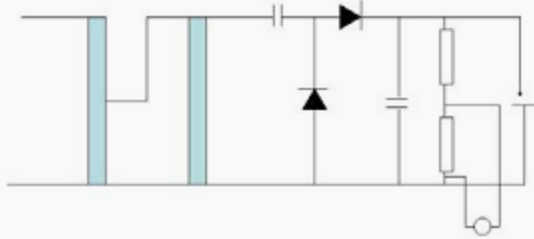

Figure 2 - Typical doubling circuit for DC tests
**Doubling and multiplier circuits** (as used in TV's and household appliances) are also used to obtain an even higher voltage. A typical **Cockcroft-Walton** (in Germany: Greinacher) doubling circuit is shown in **Figure 2**.